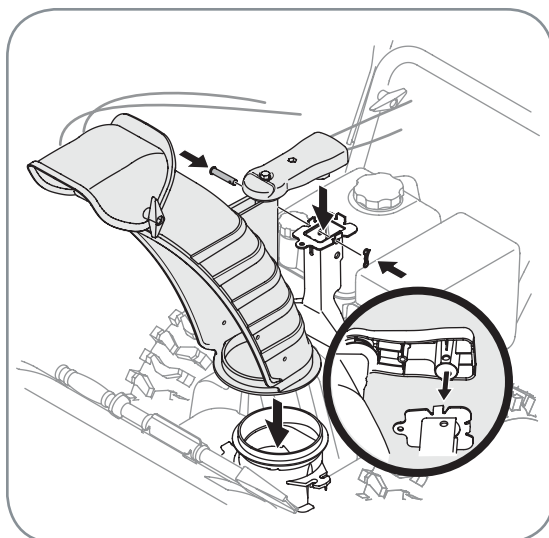

Figure 3-3
3. Place chute assembly onto chute base and secure chute control assembly to chute support bracket with clevis pin and cotter pin removed earlier. See Figure 3-3.